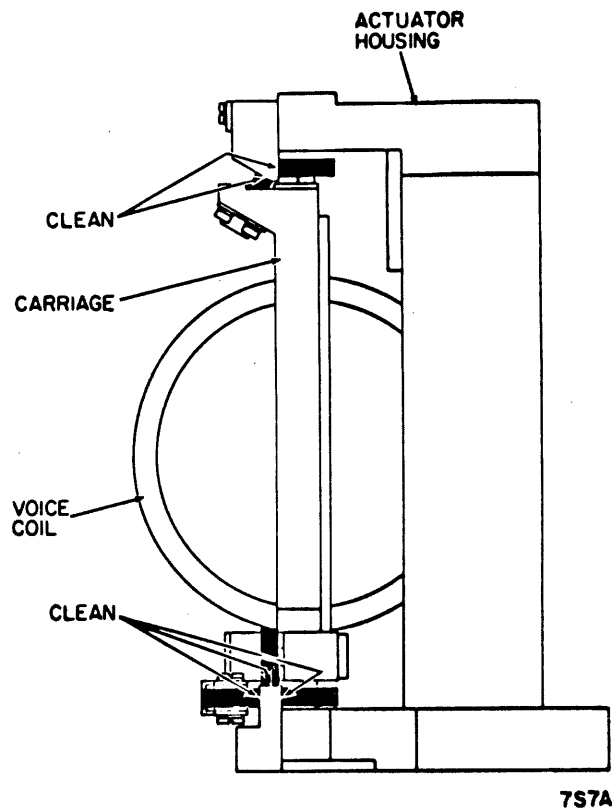

Figure 2-2. Carriage Rails and Bearings
4. Clean rails and bearing surfaces (Figure 2-2) with lint-free gauze that is slightly dampened with media cleaning solution. It is necessary to manually move carriage to gain access to all surfaces. Install head cam tool per Head Cam Tool Installation procedure.